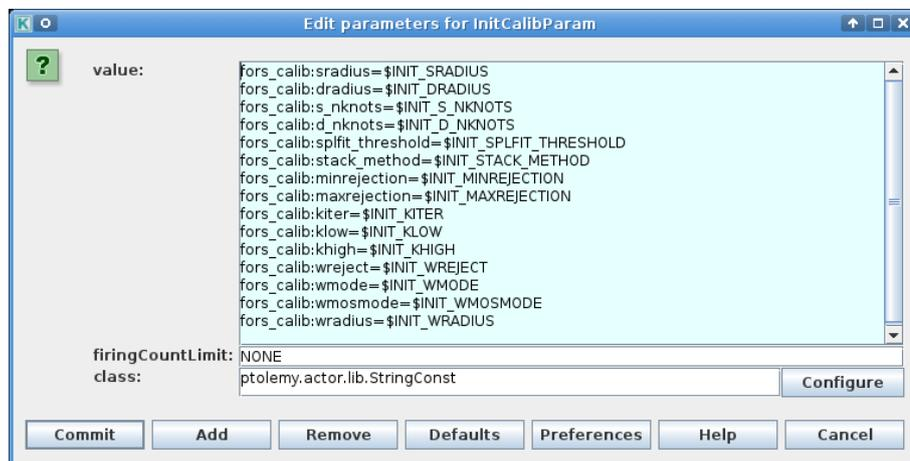

Figure 15: A string constant that generates the initial values for the recipe parameters.
- Create initial sop. This subworkflow will create a string with the initial list of recipe parameters in the form recipe:parameter=value, as shown in figure 15.